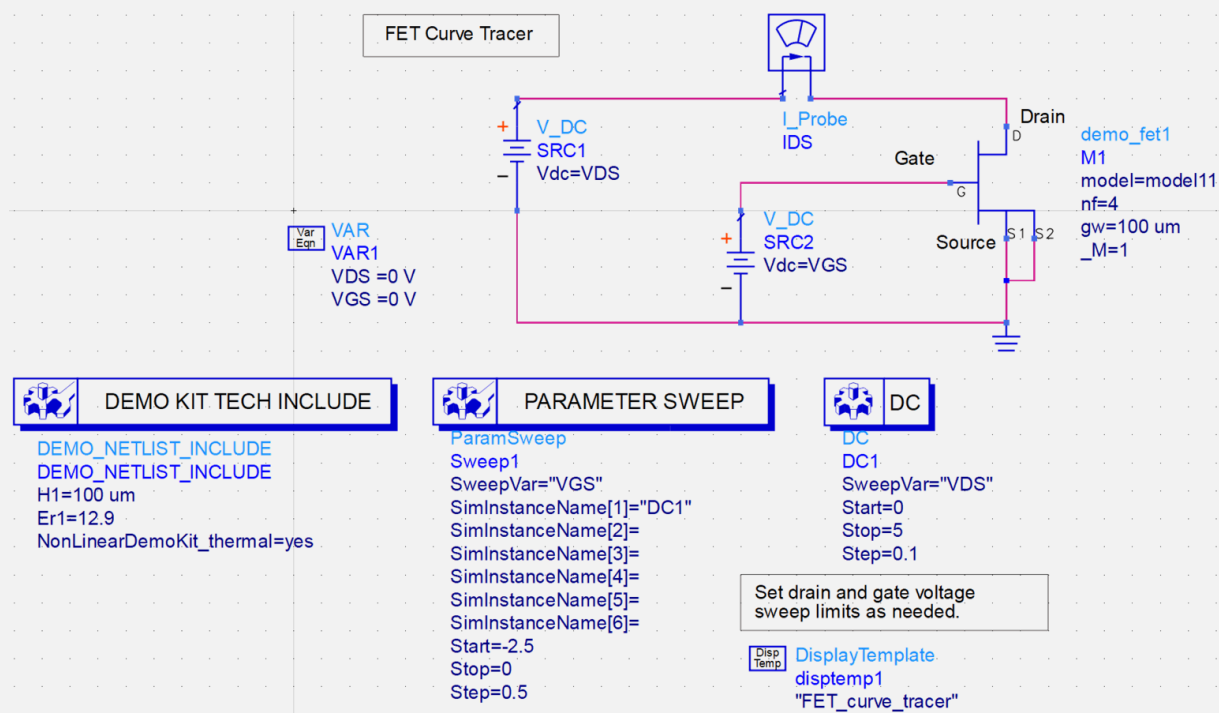

Figure 2. FET schematic, including the Demo Kit Tech Include block and sweeps
2. In the new schematic, select the **DemoKit_Non_Linear** palette and insert the **DEMO FET 1** and the **DEMO KIT TECH INCLUDE** component, as shown in the bottom of Figure 2.
Compare the status information to the Parameter Sweep and DC Simulation blocks in the schematic to understand how a nested sweep is done in ADS. In this case, the Parameter Sweep is the outer sweep, and the DC Sweep is the inner sweep. Notice that the variables must first be declared in the VAR block before they are used. The initial value is not used for the sweep, as they are automatically overridden with the swept values. The setup for these sweeps is shown back in Figure 2, at the bottom of the schematic view.